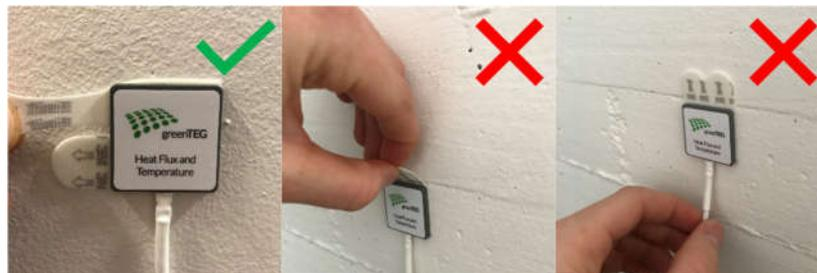

Figure 4: How to remove the nodes/sensors correctly (left) and incorrectly (center and right)
- 4) After the measurement is complete, detach the XO-Temp carefully by pinching the adhesive tape by its removal tab and slowly pulling it off in a direction parallel along the contact surface as shown in Fig. 4 (left). Do NOT pry off the sensor, pull by its cable (Fig.4 right) or by the removal tabs in the same direction as its cable (Fig. 4 center).